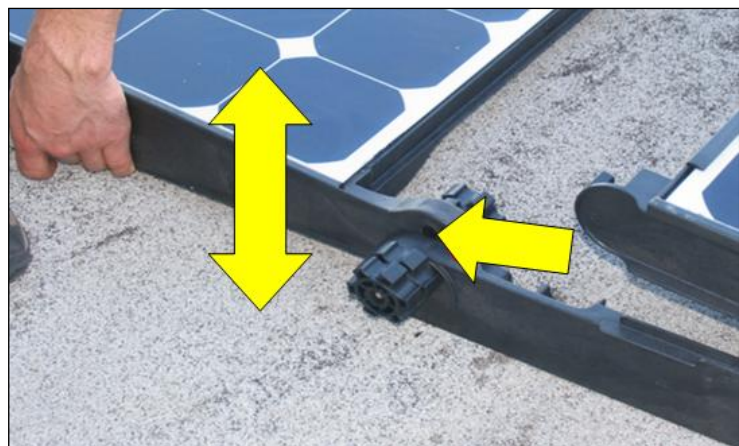

Fig. 7
**Note.** When unevenness on the roof is revealed (as gaps beneath the module feet), use the play in the vertical foot slots to adjust the position of the feet *before* fully tightening the connectors (Fig. 7). Ensure that each module rests at its lowest possible position on the roof surface.